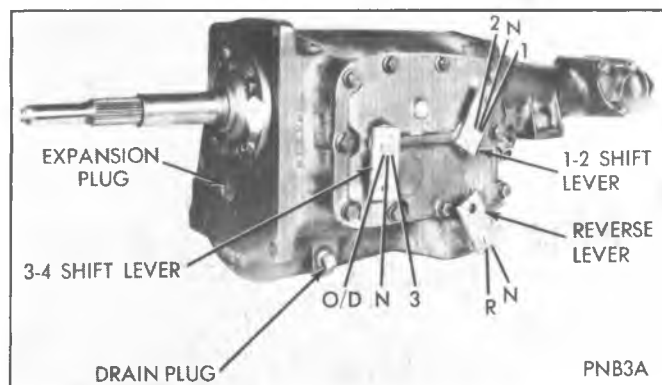

Fig. 1R--Transmission Shift Levers
3. Shift transmission into neutral position. Remove reverse shift lever, side cover bolts, side cover and shift forks. Refer to Fig. 1R. Remove reverse detent spring and ball from base in side of case.